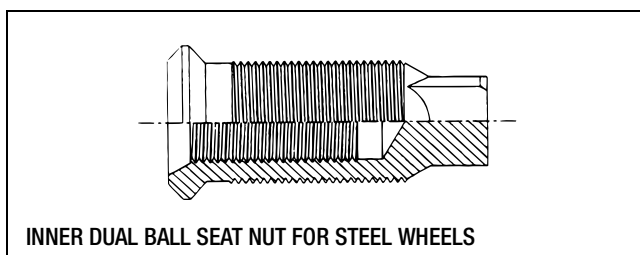
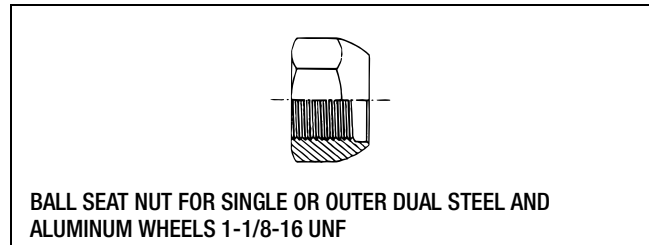

Figure 3.7
Figure 3.8
- The ball seat system requires an INNER and OUTER nut for the dual wheels. Figure 3.7 and Figure 3.8.